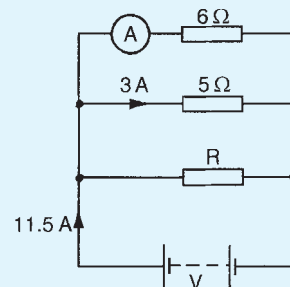

Figure 5.29
- For the circuit shown in Fig. 5.29 determine (a) the reading on the ammeter, and (b) the value of resistor R .